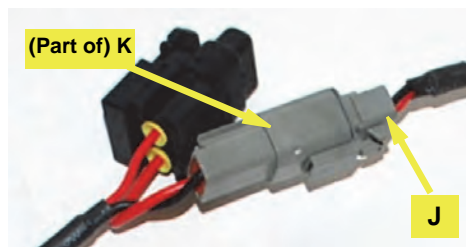

Figure 5c: Power cable to junction box cable
- d. Connect the gray connector of the power cable **J** (routed into the cab at step 5a) to the gray cable from the junction box **K** (Figure 5c).